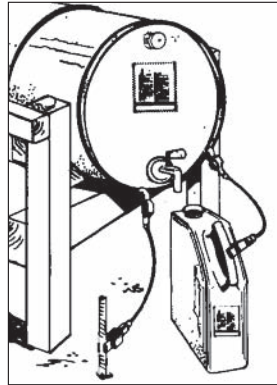

Figure 13
- Use copper grounding straps to keep static electricity from building up in containers, racks, flooring, and other surfaces (Figure 13).